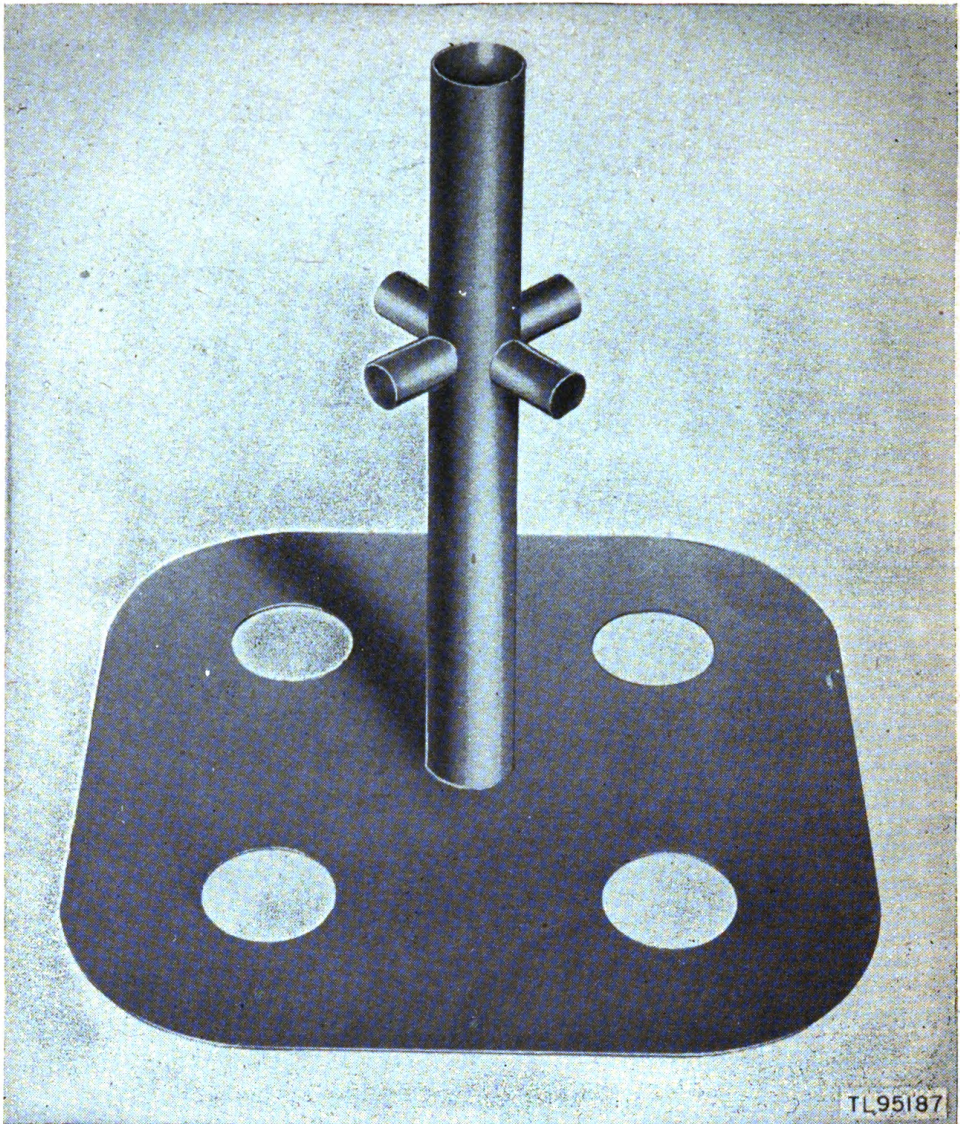

Figure 6. Manifold ML-344/TMQ-3.
a. MANIFOLD ML-344/TMQ-3 (fig. 6). The manifold is a sheet-iron plate,  $10\frac{9}{10}$  inches square and  $\frac{1}{16}$  inch thick. A  $1\frac{25}{32}$ -inch hole is located in each corner to accommodate a Hydrogen Generator ML-303/TM. A steel tube, 1 inch inside diameter and 11 inches long, is welded at the center of, and perpendicular to, the plate. This steel tube is provided with four branches located 7 inches above the plate. Each branch is 1 inch long and  $\frac{5}{8}$  inch outside diameter.